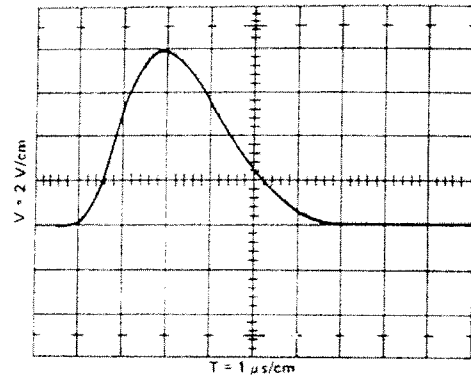

Figure 4 Unipolar Output Pulse
something like that in Figure 4. Now adjust the amplifier gain until the output pulses, as closely as you can tell, have an amplitude of 8.00 V.
5. Return the amplifier output switch to unipolar. Now double the gain setting on the amplifier. You won't see the pulse of Figure 4, increased to 16 V high. What is happening instead? Now set the gain back where it was. The pulse on the display should be that of Figure 4 again.